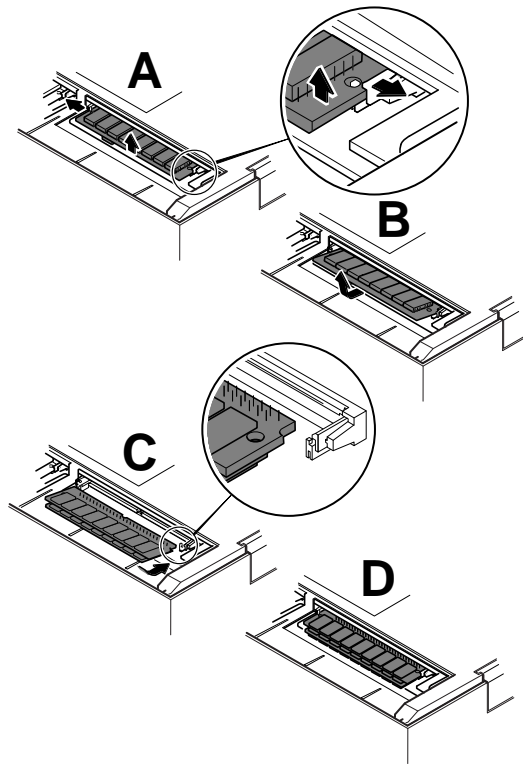

Figure 15-2 Removing and Replacing the SIMMs
- 2.** Gently press the latches of the first SIMM socket outward until the SIMM pops up (see Figure 15-2, views A and B). This frees the SIMM for removal.
3. Hold the SIMM so that its contact edge points away from you and the cut-out edge is on the right. Then, place the SIMM's contact edge against the SIMM connector (see Figure 15-2 views C and D).